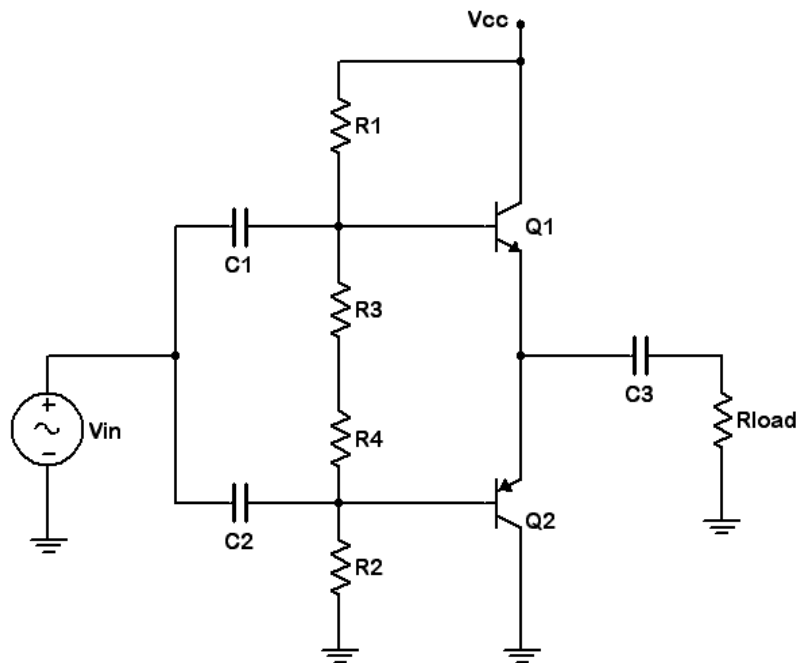

Figure 1
1. Consider the circuit of Figure 1 using $V_{cc} = 6$ volts, $R_1 = R_2 = 2.2 \text{ k}\Omega$, $R_3 = R_4 = 220 \Omega$, $R_{load} = 100 \Omega$, $C_1 = C_2 = 10 \mu\text{F}$ and $C_3 = 100 \mu\text{F}$. Ideally this circuit will produce a compliance of just under 6 volts peak-peak.
2. Build the circuit of Figure 1 using $V_{cc} = 6$ volts, $R_1 = R_2 = 2.2 \text{ k}\Omega$, $R_3 = R_4 = 220 \Omega$, $R_{load} = 100 \Omega$, $C_1 = C_2 = 10 \mu\text{F}$ and $C_3 = 100 \mu\text{F}$. Disconnect the signal source and insert an ammeter into the collector of Q1. Record I_{CQ} in Table 1.